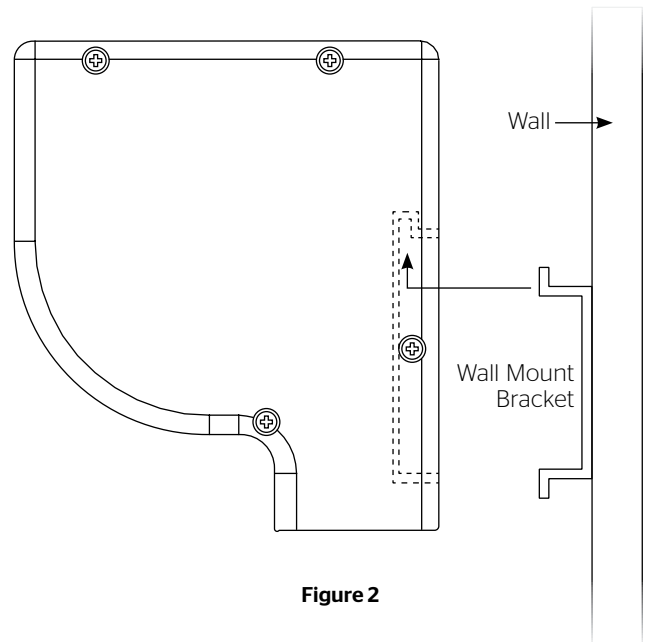

Figure 2
- Secure the wall mount bracket to the wall at the desired height. The wall mount bracket should be fastened to the wall studs or some reinforcement within the wall. Concrete or brick walls require special fasteners and anchors. Allow at least 2-3/8" above the wall mount bracket to be able to position the case on the bracket (Figure 2).
- Hang the screen case on the wall mount bracket as shown in (Figure 2). Be sure the case is fully seated on the bracket.